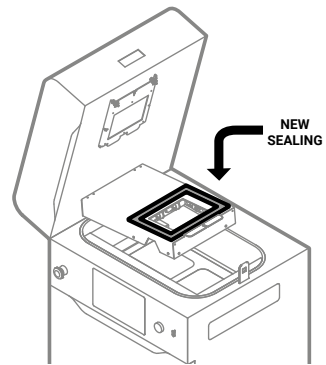

Fig. 12.51 Apply the new reflector sealing.
14. Remove the plastic paper and place the sealing carefully around the hole (fig. 12.51). Do not stretch the seal when glueing!